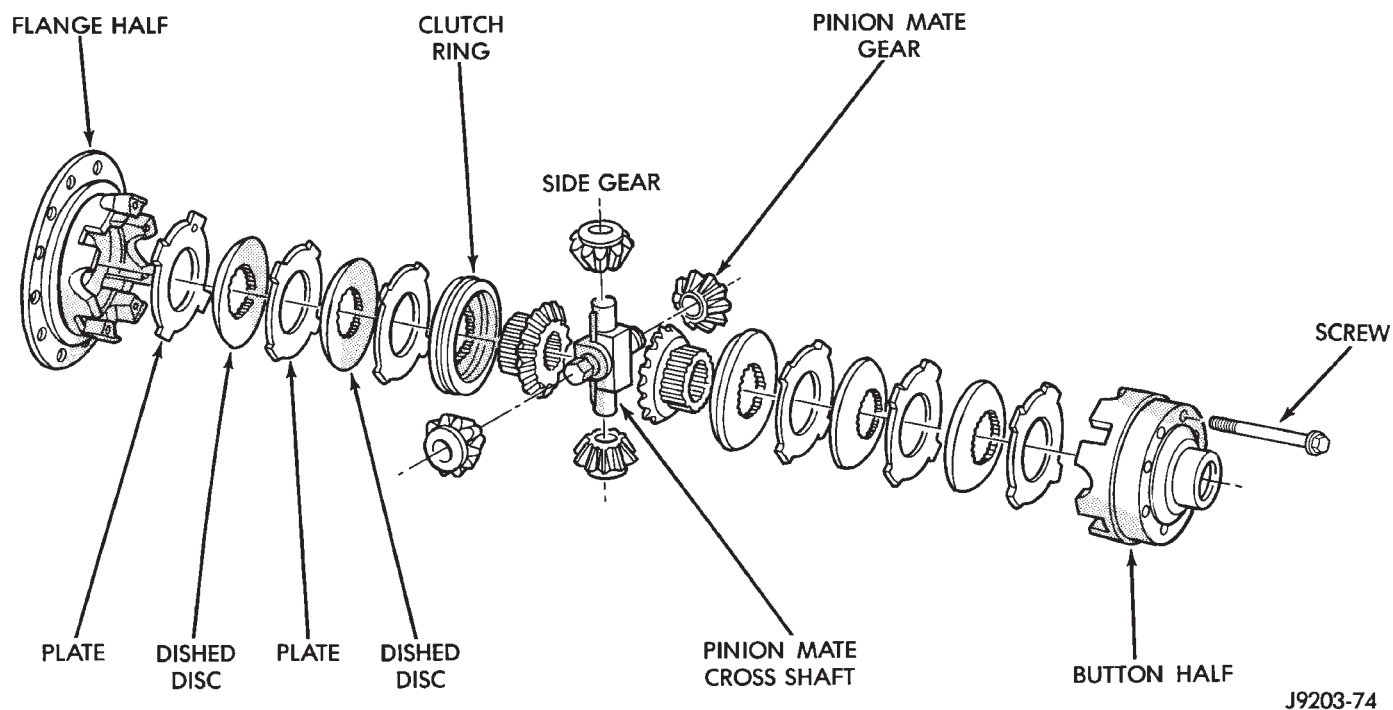
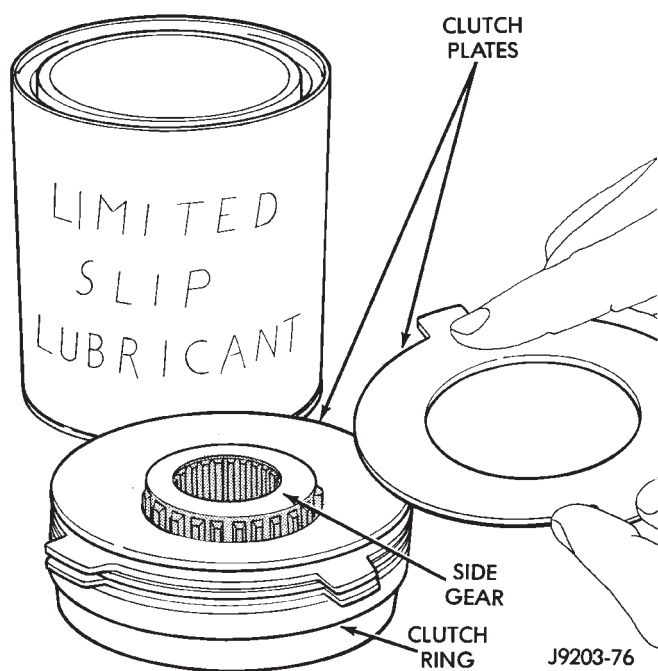

Fig. 50 Power-Lok Components
Fig. 51 Clutch Pack Power-Lok
(3) Remove top clutch pack (Fig. 50).
(1) Saturate the clutch plates with Mopar® Hypoid Gear Lubricant or Additive (Fig. 51). Assemble clutch packs into the side gear plate in exactly the same position as removed (Fig. 50).